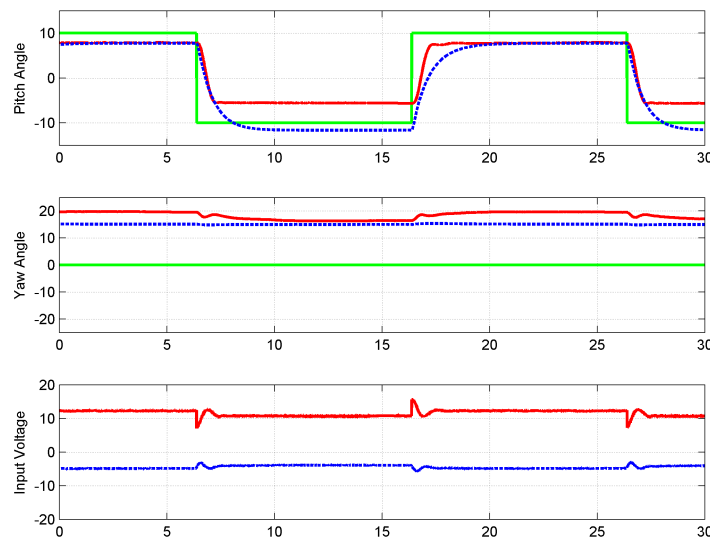

Figure 5.20: Closed-loop LQR response under pitch reference step
13. Open the *theta (deg)*, *psi (deg)*, and *Vm_actual (V)* scopes in the *Scopes* folder. In the *theta (deg)* scope, the desired pitch position is the yellow line, the measured pitch position is the purple plot, and the simulated pitch position is light blue trace. Similarly in the yaw scope, *psi (deg)*, yellow is the desired yaw, purple is the measured yaw, and light blue is the simulated yaw. The *Vm_actual (V)* scope plots the voltage being applied to the pitch motor in yellow and yaw motor in purple.
14. Figure 5.20 depicts the typical measured and simulated pitch and yaw response under a desired step pitch angle. The measured response is the solid red line, the simulation is the dashed blue line, and the reference is the solid green line. Notice in both the measured and simulated responses the pitch angle has a steady-state error.